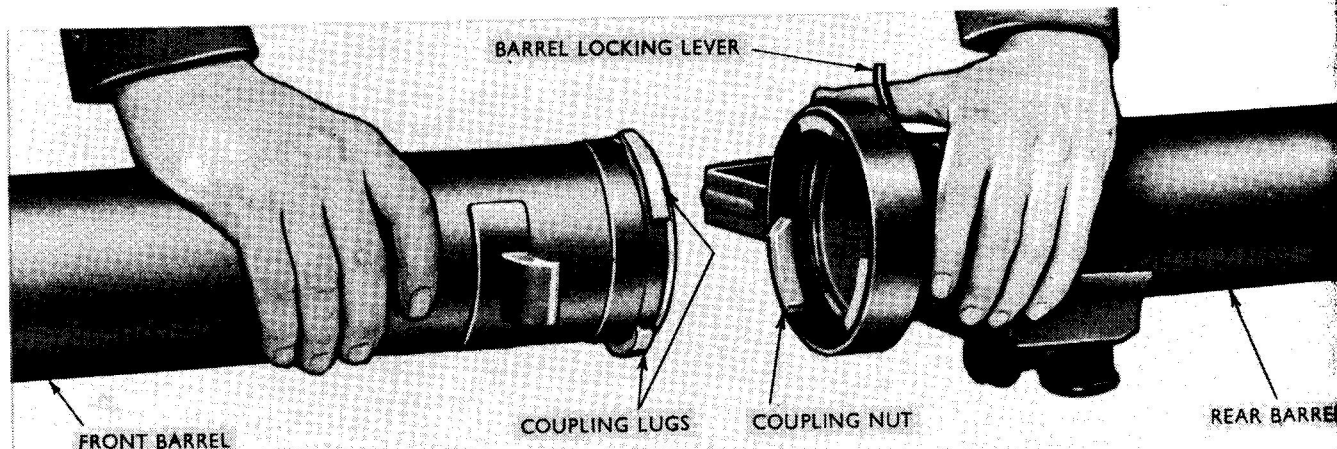

Fig. 1 Assembling of Barrel
2.0. The barrel is in two parts and is joined together by three coupling lugs on the rear end of the front part of the barrel and a coupling nut on the front end of the rear part of the barrel (Fig. 1). The two parts are engaged by turning the front part through about 60 degrees in a clockwise direction, further rotation being prevented by the narrowing of the grooves in which the lugs work. The barrel joint is secured by a screw which exerts a jamming action against the inclined face of one of the lugs and is operated by a barrel locking lever.